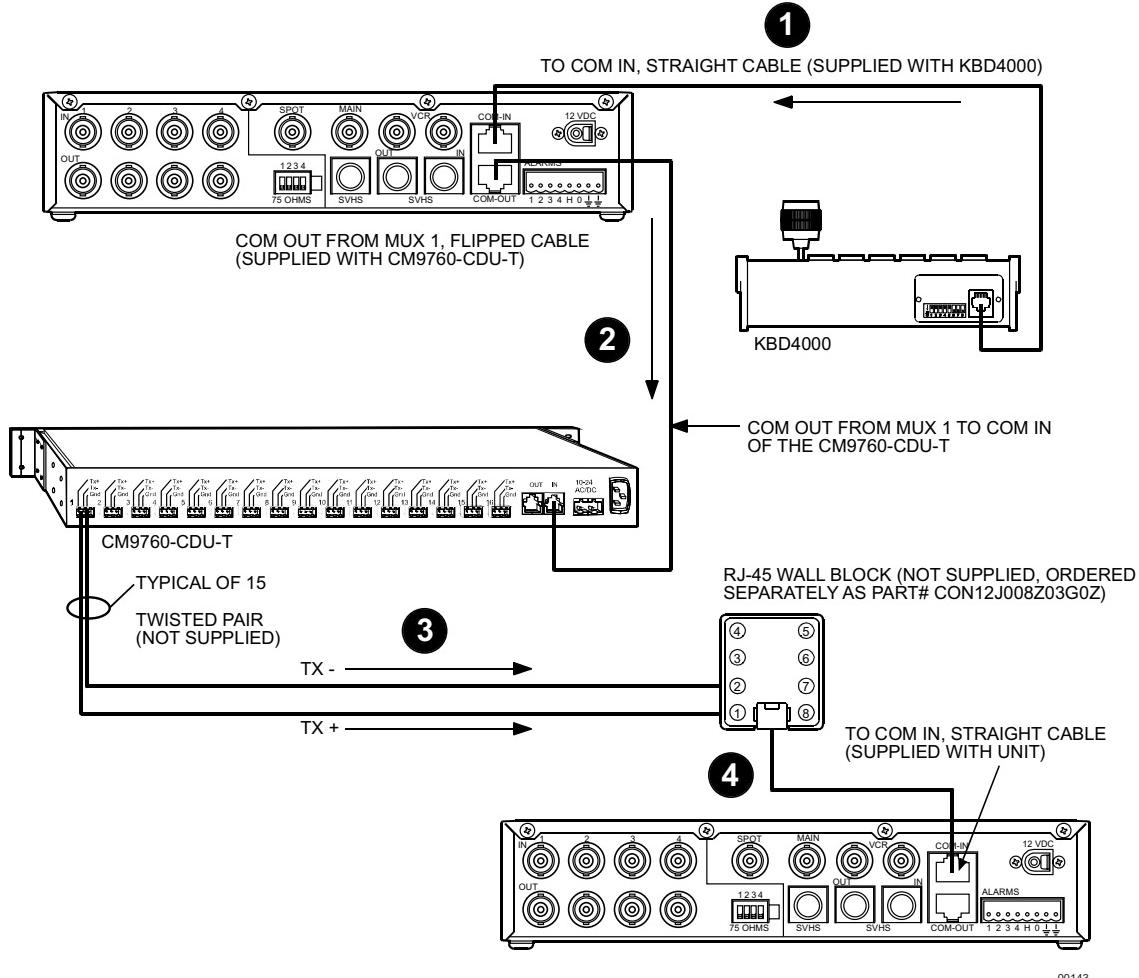

Figure 12. Star Configuration of Multiplexers
2. Plug the supplied 25-foot (7.6 m) cable into the back of the KBD4000/KBD4002 keyboard and into COM IN on the back of the multiplexer. Refer to Figure 12. To connect a KBD4000V keyboard to the multiplexer, refer to the KBD4000V manual.
The CM9760-CDU-T can be used as a distribution unit for a star configuration of Genex Series multiplexers. Refer to Figure 12.